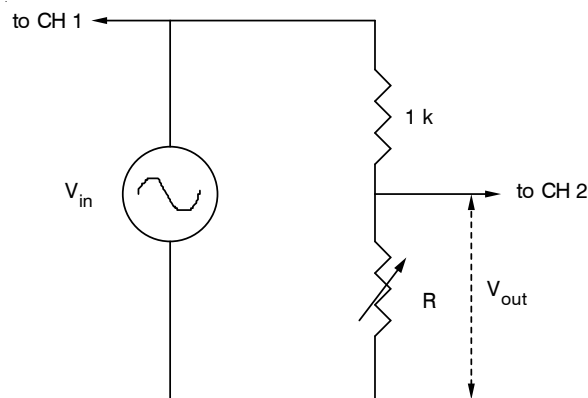

Fig. 2: Voltage divider circuit with A.C. input voltage and variable resistor.
3. **Circuit Layout:** Discuss with your lab partner(s) how you plan to construct the circuit shown in Fig. 2, part of which will include soldered connections inside the circuit chassis and part of which will be coaxial cables from/to the oscillator, oscilloscope and circuit chassis. Notice that you can solder to the center conductor on the back side of the BNC connectors mounted on the circuit chassis in to bring signals into or out of the chassis. The oscilloscope should be connected such that you can monitor the input (on channel 1) and output (on channel 2) voltages simultaneously.